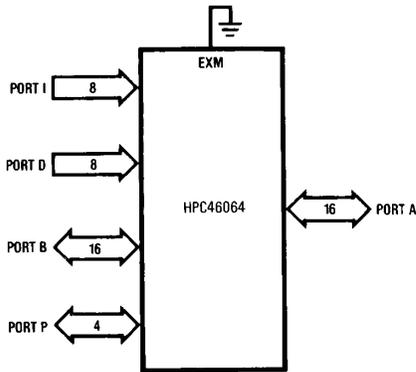

FIGURE 15. Single-Chip Mode
In this mode, the HPC46064 functions as a self-contained microcomputer (see Figure 15) with all memory (RAM and ROM) on-chip. It can address internal memory only, consisting of 16k bytes of ROM (C000 to FFFF) and 512 bytes of on-chip RAM and Registers (0000 to 02FF). The "illegal address detection" feature of the WATCHDOG is enabled in the Single-Chip Normal mode and a WATCHDOG Output (WO) will occur if an attempt is made to access addresses that are outside of the on-chip ROM and RAM range of the device. Ports A and B are used for I/O functions and not for addressing external memory. The EXM pin and the EA bit of the PSW register must both be logic "0" to enter the Single-Chip Normal mode.